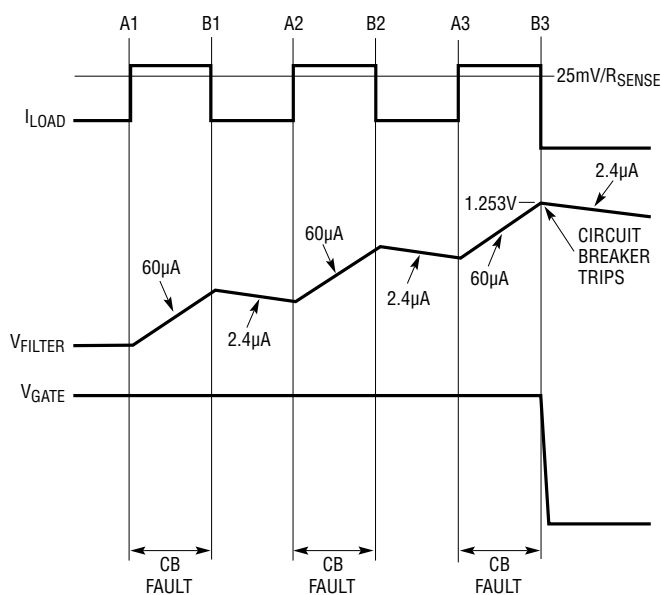
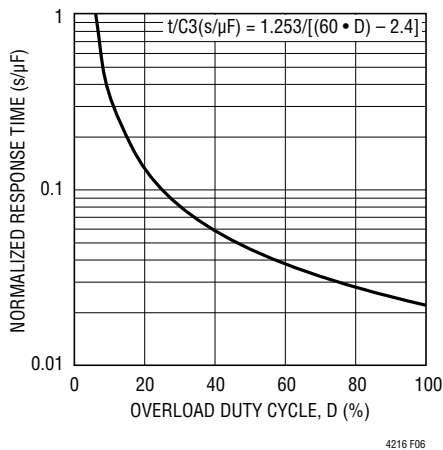

Figure 5. Multiple Intermittent Overcurrent Condition
Figure 6. Circuit Breaker Filter Response for Intermittent Overload
Intermittent overloads may exceed the current limit as in Figure 5, but if the duration is sufficiently short, the FILTER pin voltage may not reach the $V_{FILT(TH)}$ threshold and the device will not shut off. To handle this situation, the FILTER discharges with 2.4μA whenever voltage across the sense resistor is below 25mV. Any intermittent overload with an aggregate duty cycle of more than 4% will eventually trip the circuit breaker. Figure 6 shows the circuit breaker response time in seconds normalized to 1μF as given by Equation (3). The asymmetric charging and discharging of FILTER is a fair gauge of MOSFET heating.